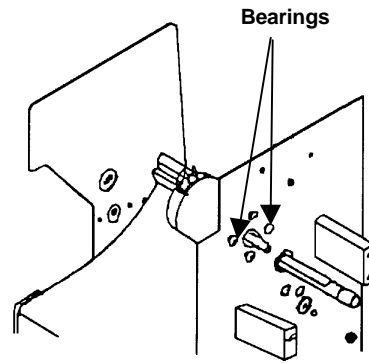

Figure D- 2. Stacker Lubrication Points.
4. Apply silicon lubricant to the two bearing on the rear frame and two bearings on the front frame. See Figure D-2.